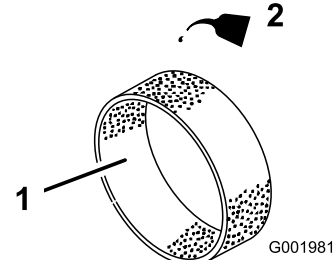

Figure 25
4. Put 1 or 2 ounces of oil on the element (Figure 25).